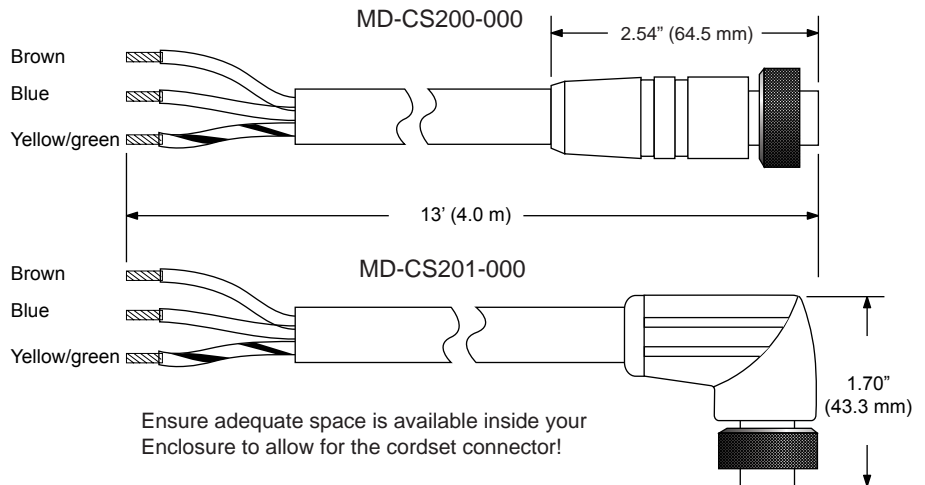

Figure 3.4 MD-CS20x-000
- Figure 3.4 Spring engaged..... 3-7